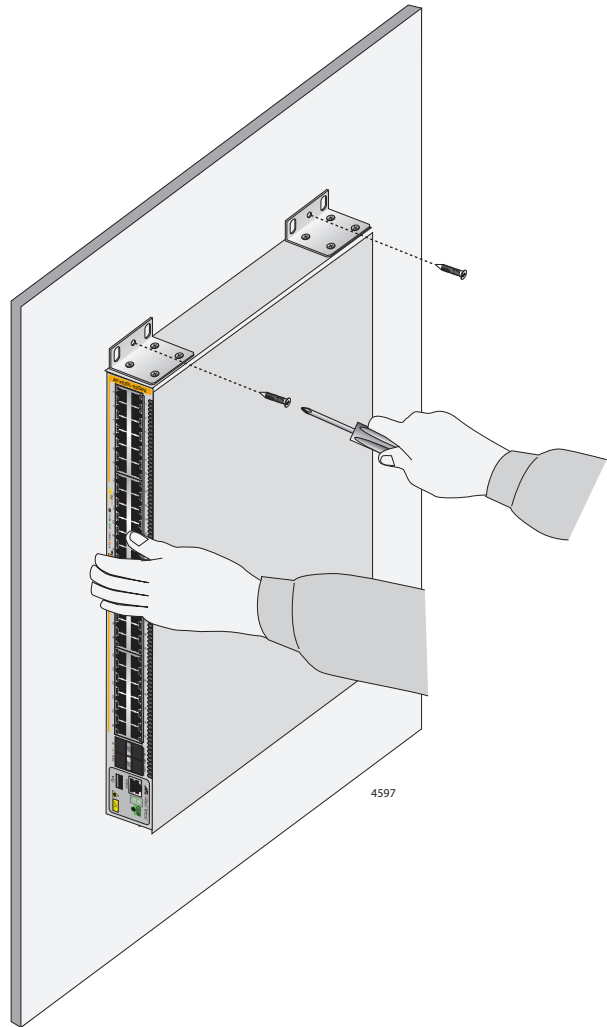

Figure 66. Installing the Switch on a Concrete Wall
7. Have another person hold the switch at the selected wall location while you secure it to the wall with the M4x32mm screws provided. Refer to Figure 66.